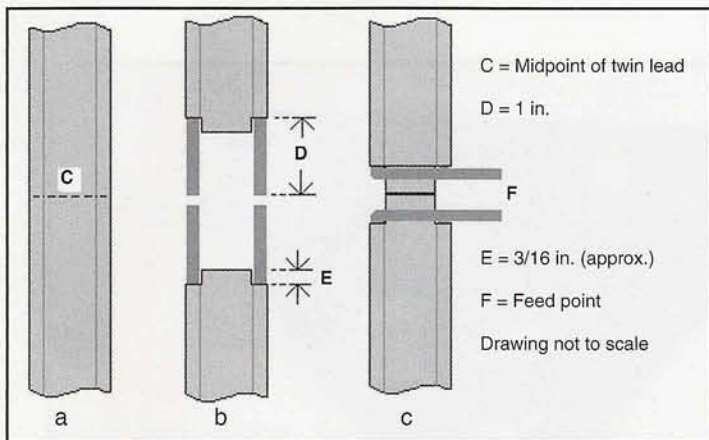

Figure 2. Feed-point construction.
Step 2 is the construction of the center feed point. This is shown in figure 2. Find and mark the halfway or mid-point of the initial length of twin lead. The easiest method is to hold both ends flat together and mark the point where the fold occurs. This is point C on the drawing, figure 2a. Cut the twin lead squarely at this midpoint (C).